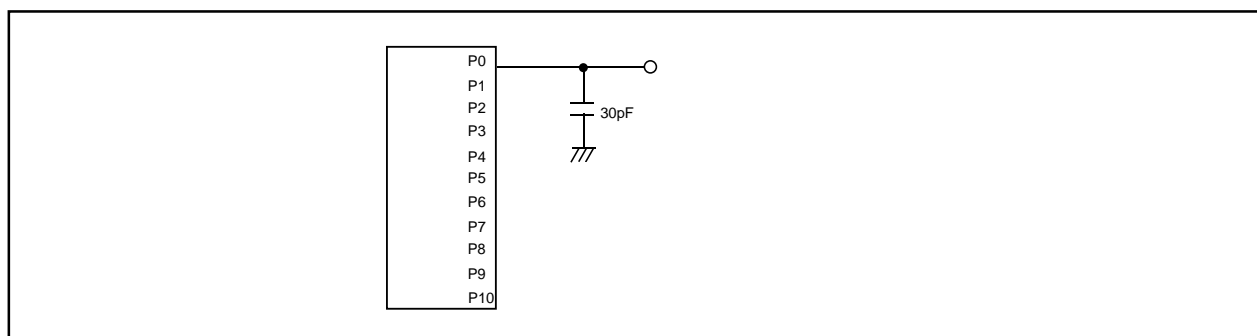

Figure 1.23.7. Port P0 to P10 measurement circuit
Timing ( $V_{CC} = 3V$ )Figure 1.23.7.  $V_{CC}=3V$  timing diagram (1)